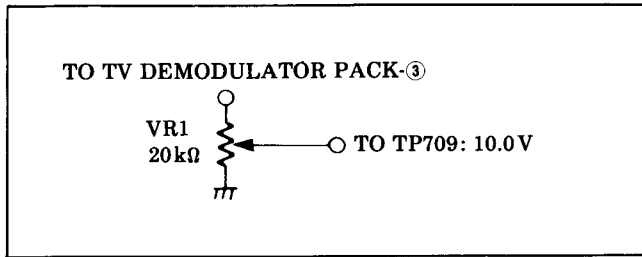

Fig. 29 Adjustment JIG. 2
5. Connect the JIG. to both points TP709 and TV DEMODULATOR PACK-③ as shown in Fig. 29.